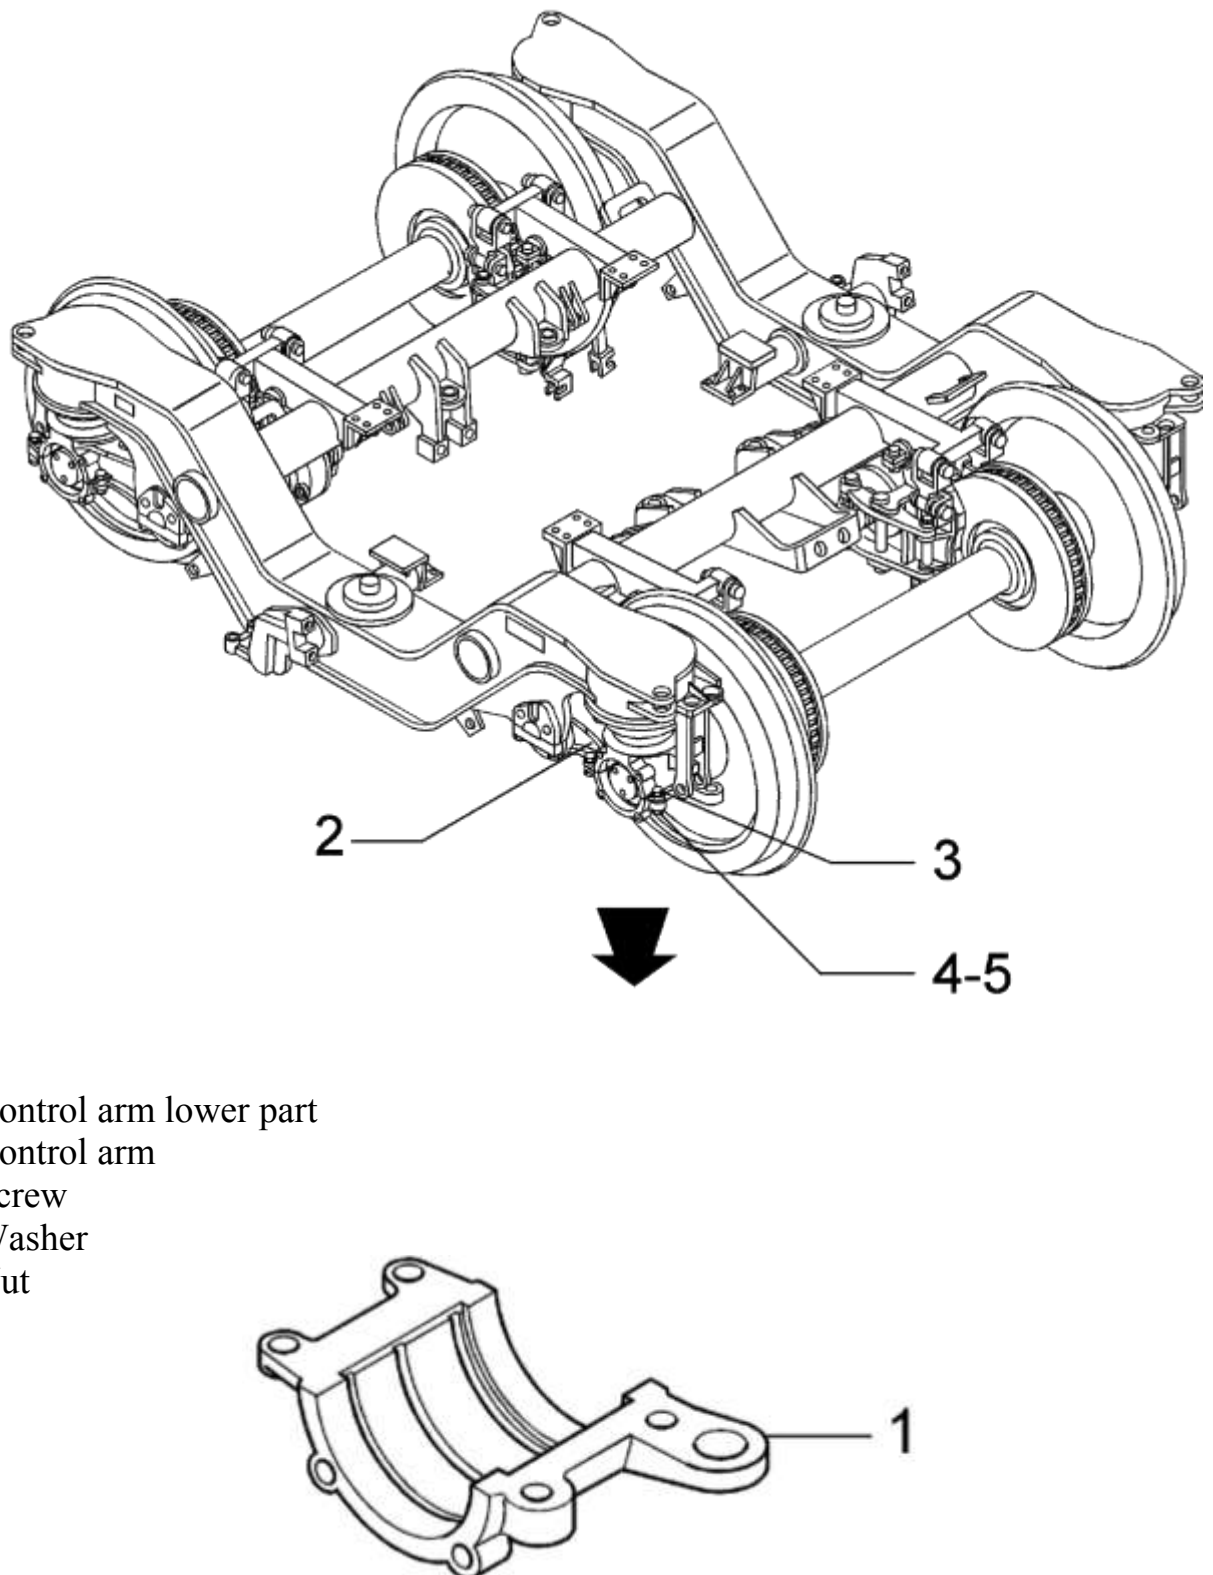

FIG. 4.40 Removal of Lower Part of Control Arms
Then proceed with removal of the lower part (1 - FIG. 4-40) of the control arms (2), extracting the screws (3), the washers (4) and the nuts (5). proceed with all the four control arms.